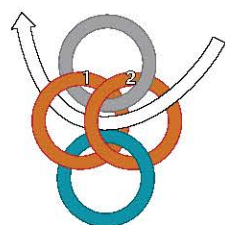

FIG. 2
3. Thread 1 open jump ring straight through jump rings 1 and 2 of row 2 using a TE connection (page 22), as marked in FIG. 2. Close the jump ring.